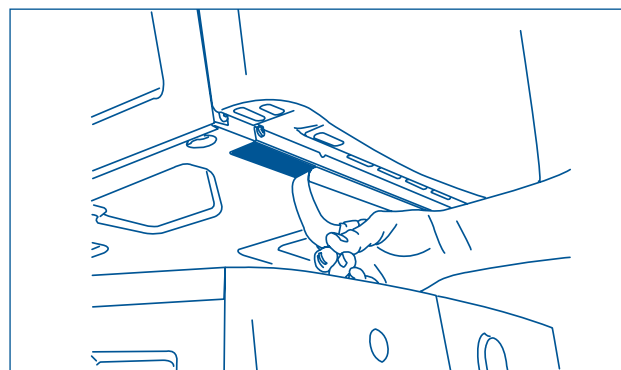

Figure 2-47.
5. Lift front of dryer and remove RED backing from adhesive strip on front bracket. (See Figure 2-47)